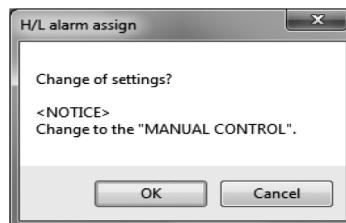

Fig.60
- ④ After all settings are complete, click the "OK" button to display a message box (Fig. 60).